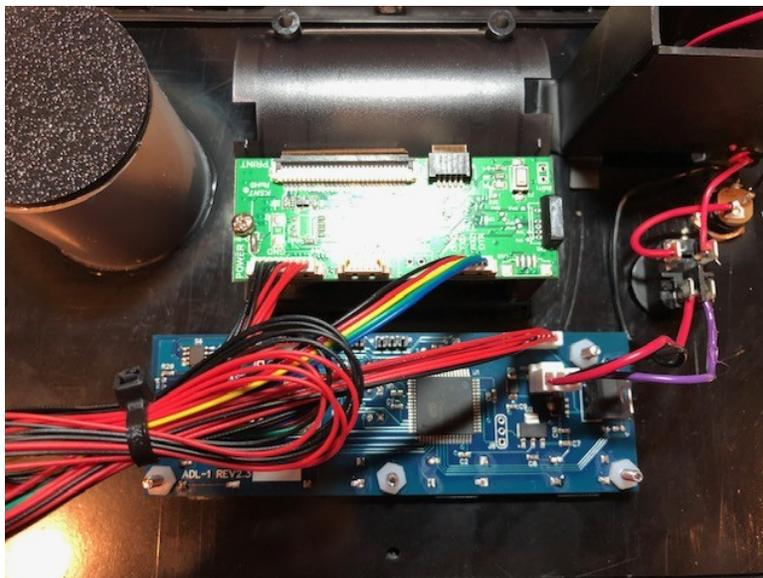

Fig 3
- e) Place panel upside down in case with the paper holder on the left. (Fig 3)